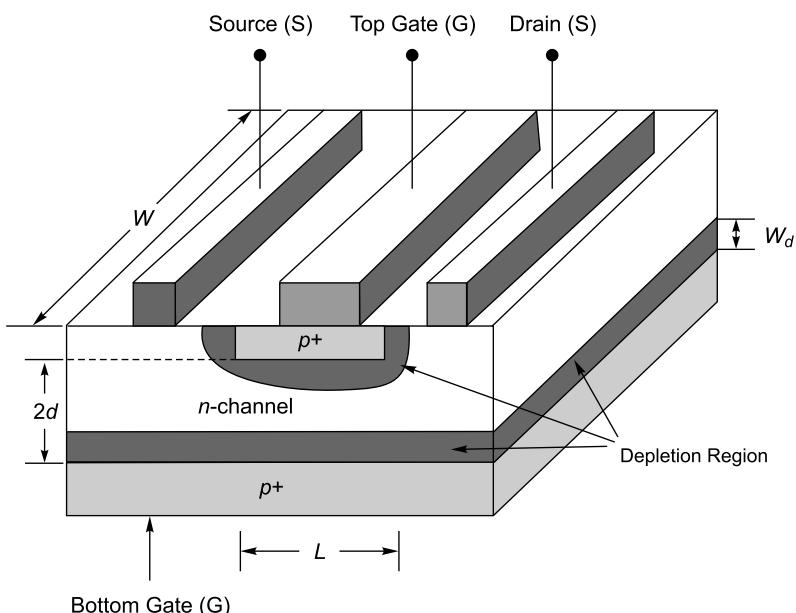

Fig. 1.3 Structure of an *n*-channel JFET
Figure 1.3 shows the structure of an *n*-channel JFET which has two *p*⁺ regions on either sides of the *n*-channel. Actually, an *n*-type semiconductor bar has two *p*-type heavily doped regions (*p*⁺ region) on the opposite sides of the *n*-channel. Hence, *p*⁺ type region form two *p*⁺*n* junctions. Two *p*⁺ regions are connected internally and a single output terminal is available from the device and it is called gate (G) terminal.